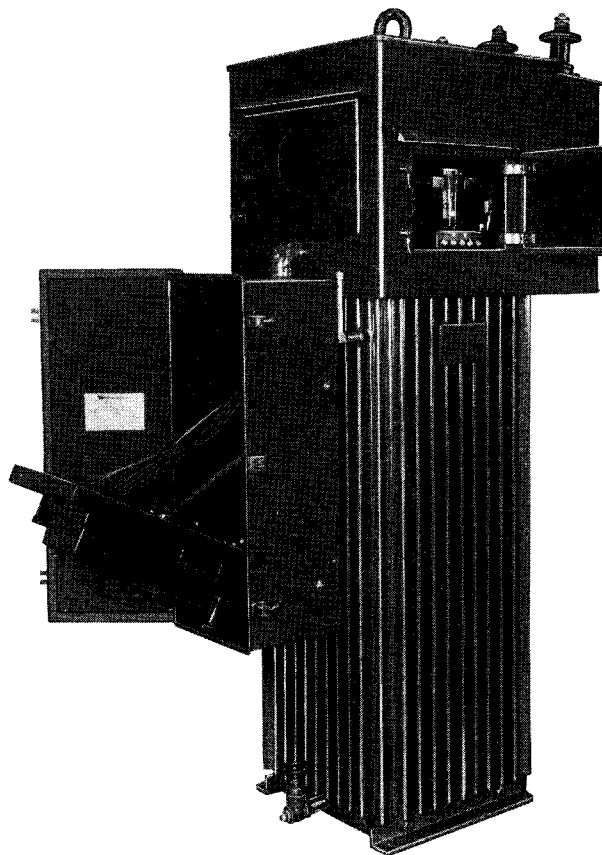
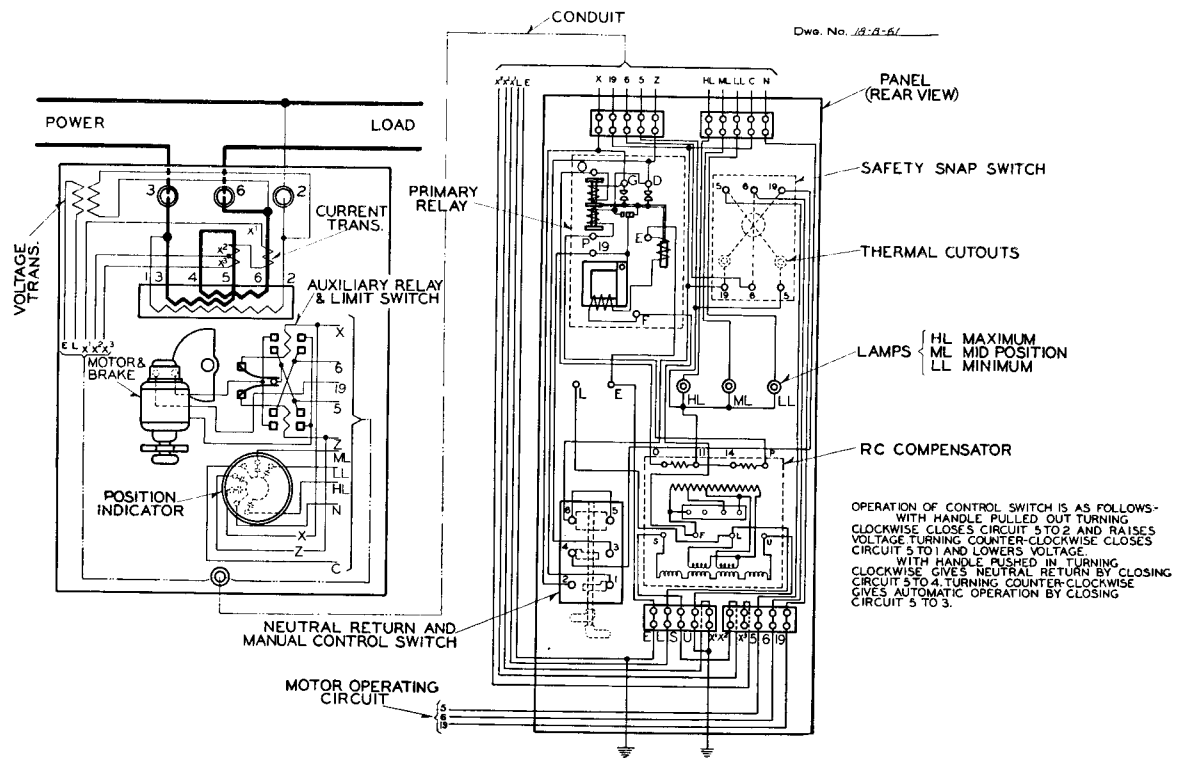

FIG. 22—OUTDOOR TYPE SINGLE-PHASE INDUCTION REGULATOR
FIG. 23--DIAGRAM OF CONNECTIONS, OUTDOOR TYPE AUTOMATIC INDUCTION REGULATOR
99. Fig. 22 shows a single-phase outdoor type regulator.
101. The panel is mounted in a weather-proof control box and can be swung forward for connecting the control leads by removing the two machine screws located at the top of the panel. See Fig. 22. Fig. 23 shows connections for outdoor type regulator.